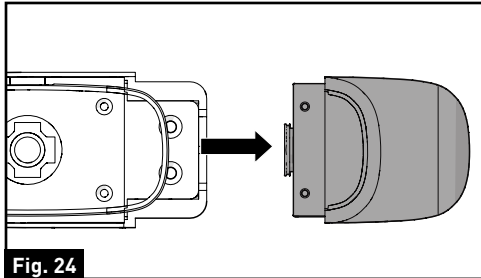

Fig. 24
4. Pull to remove the decorative part from traffic light and save in a safe place in case of future use. (Fig. 24)